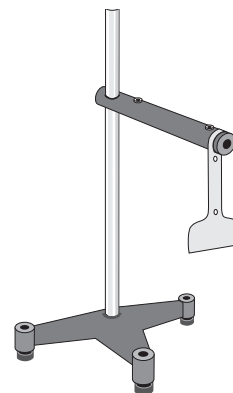

Figure 4
- ① Slide the support rod through the hole on the mounting rod and tighten the set screw to hold it in place.
- ② Hang the solid paddle on the end of the black bar by placing the hooked end of the paddle in the slot in the black bar (Figure 4).
- ③ Adjust the magnet poles so the gap between the poles is just wide enough to allow the paddle to fit without touching.